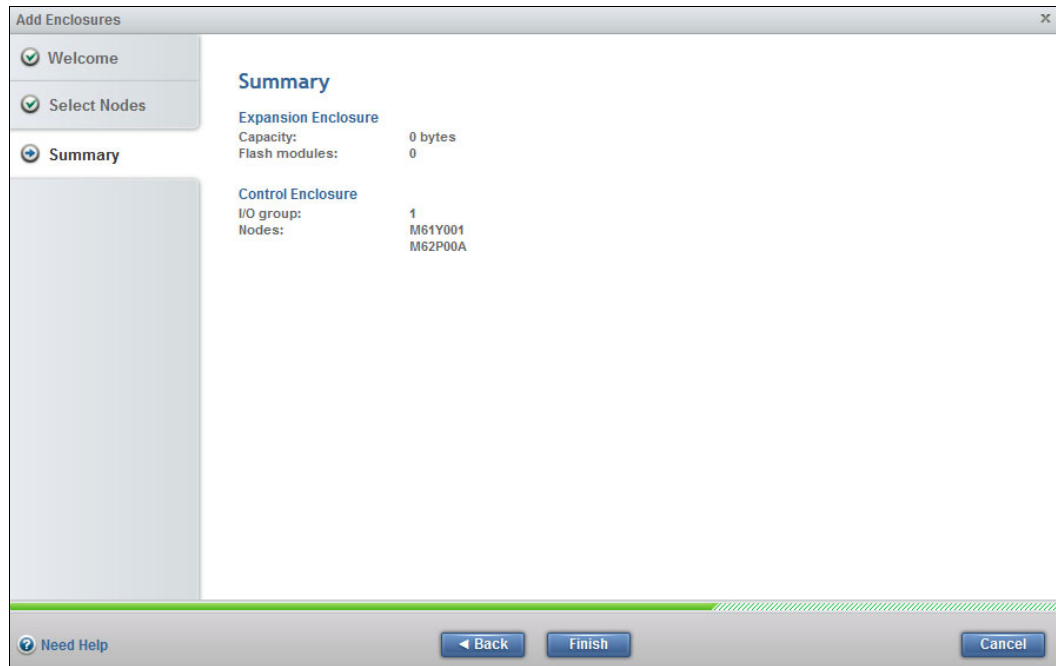

Figure 5-22 Summary for adding IO group and storage enclosure
6. A summary is displayed (Figure 5-22). It shows that one new I/O group with two nodes are being added. The capacity field shows zero bytes being added. Capacity will be added later through the MDisks by Pools menu. Click **Finish**.